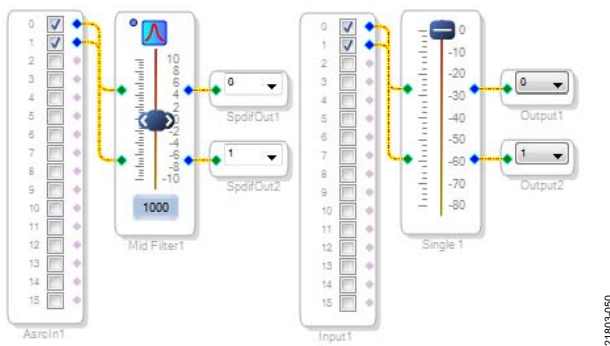

Figure 51. Completed Signal Flow
3. Connect the filter in series between the **Asrcin1** block and the **SpdifOut1** and **SpdifOut2** blocks to apply the filter to the signals passing through the DSP. The completed signal flow resembles Figure 51.
5. To change the settings of the filter, click the blue icon at the top left of the **Mid Filter1** block (see Figure 51). To change the filter gain in real time while the project is running, drag the control slider in the **Mid Filter1** block.
- Click the **Link/Compile/Download** button (see Figure 28) or press the **F7** key to compile the signal flow and download it to the evaluation board hardware. The audio signal passes from the S/PDIF receiver through the ASRCs into the DSP and the filter, and then out on the S/PDIF transmitter. To change the settings of the filter, click the blue icon at the top of the **Mid Filter1** block (see Figure 51). Drag the control slider in the **Mid Filter1** block to change the filter gain in real time while the project is running.